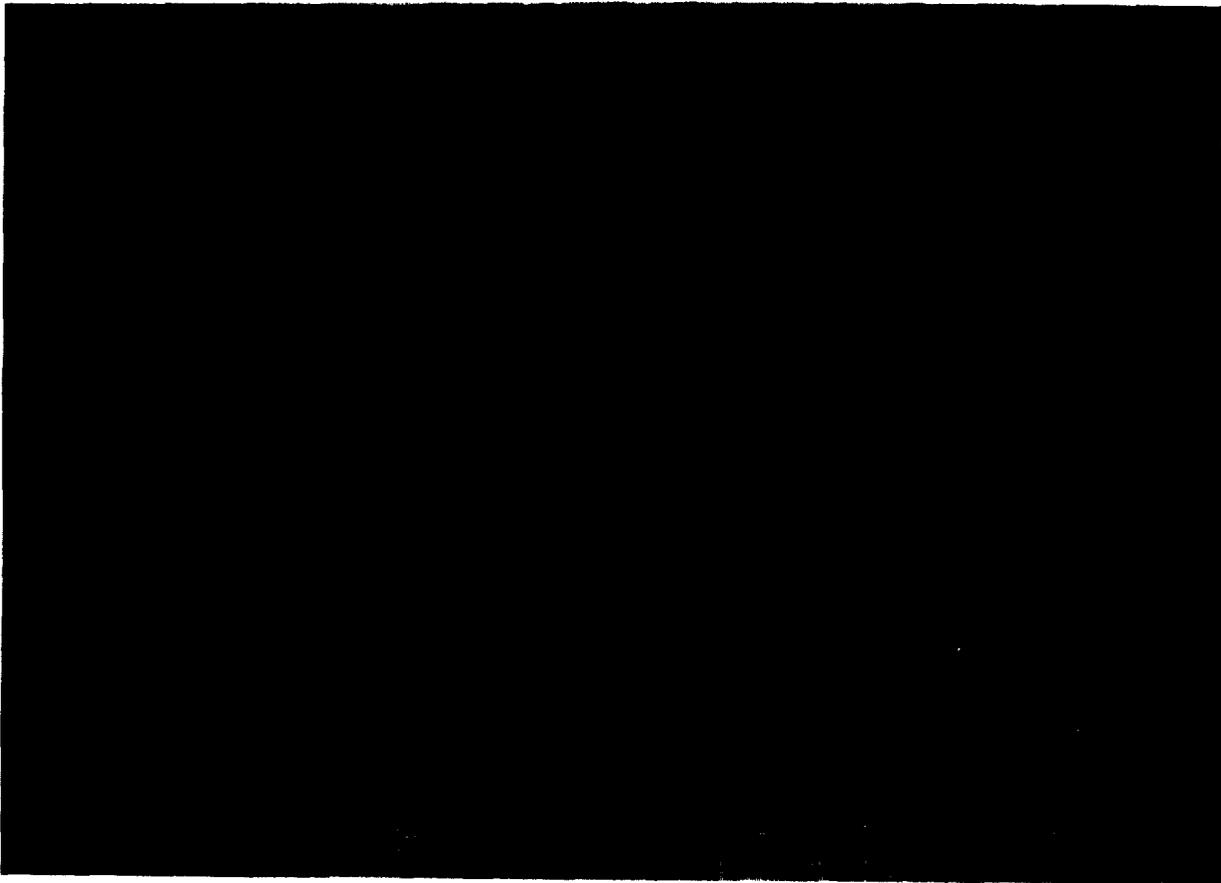

Figure 4-1. Reusable container.
b. Description of Reusable Container. The case for shipping and storing the radar chronograph with its attached mount is a specially designed reusable plastic container (fig. 4-1). The two-piece case, formed of high impact plastic, provides protection against moisture, vapor, and physical shocks which might dam-